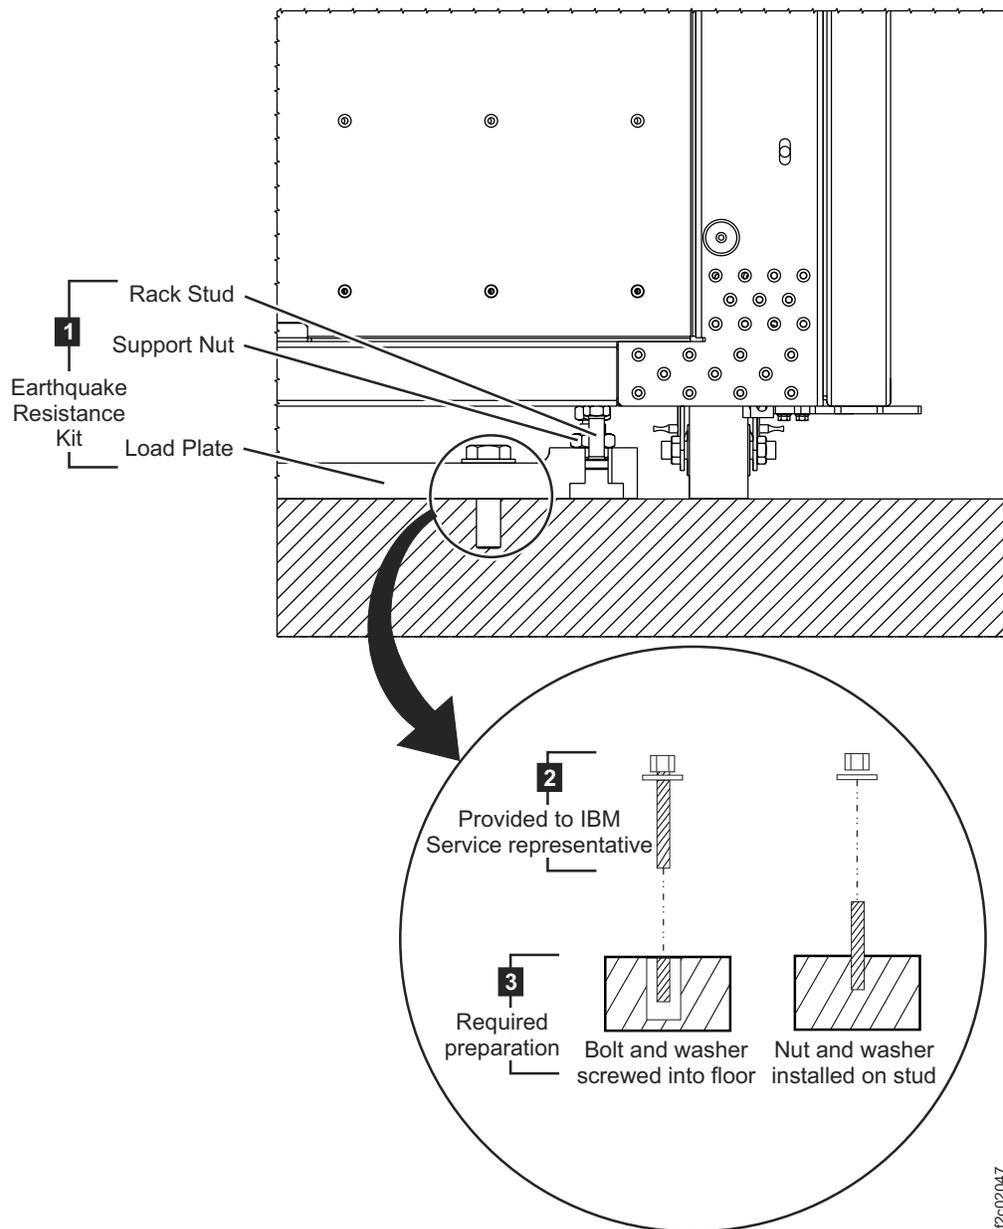

Figure 25. Earthquake resistance kit installed on a nonraised floor.
Figure 25 provides an illustration of the earthquake resistance kit ( **1** ) after the IBM service representative installs it on the nonraised floor.
Before the IBM service representative installs the kit, you must prepare the area that is shown as **2** in Figure 25. This figure shows two of the most common fasteners that you can use.
Figure 25 on page 160 illustrates the fastener sets.
- When the IBM service representative arrives to install the earthquake resistance kit, provide the other fastener parts (2) in Figure 25 on page 160 so that the representative can use these parts secure the load plates onto the floor.